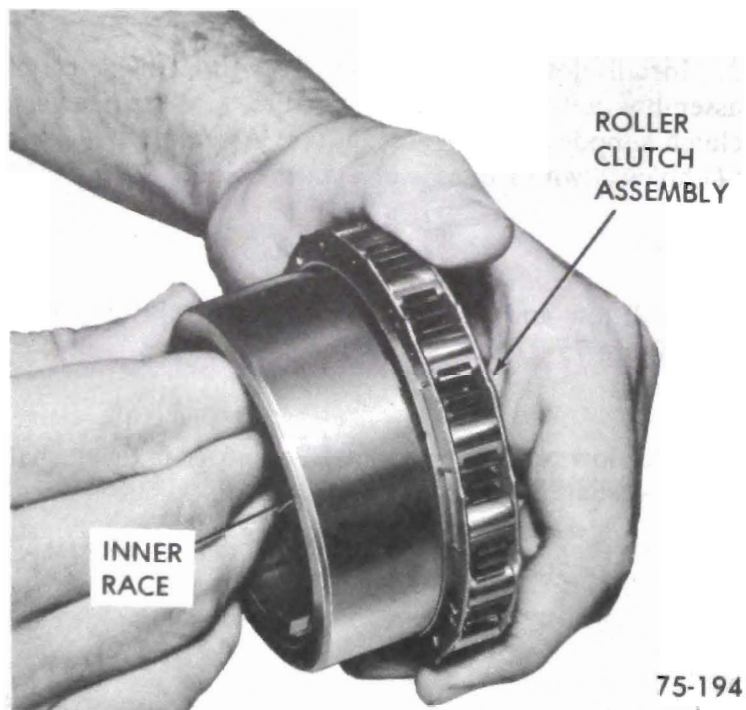

Figure 75-215
1. Install low and reverse roller clutch assembly to inner race. See Figure 75-215. The inner race should free wheel in the clockwise direction only.